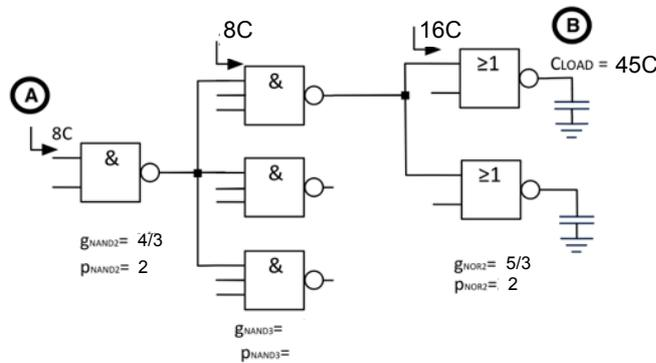

Figure 6.2: A path of NAND and NOR gates for which to calculate the path delay.
- a) In Figure 6.2 you see a path through a circuit made up of NAND and NOR gates. Add the missing data for the 3-input NAND gate and calculate the delay from A to B. In this process p_{inv} is 1.
- b) Again consider the path shown in Figure 6.2. Now your task is to find the optimal sizes for the 3-input NAND and 2-input NOR gates to minimize the delay. What are the sizes and what is the delay when these sizes are applied?